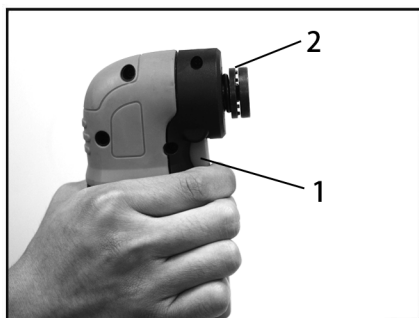
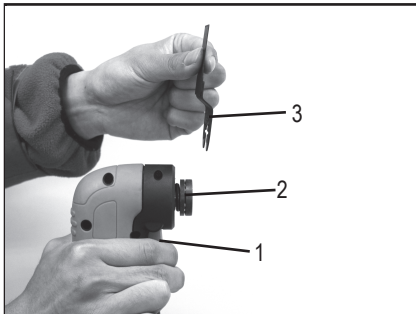
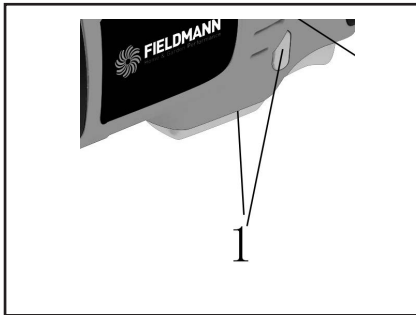

Fig. 1
Fig. 2
Fig. 5
1. Press the accessory holder (1). Fig. 1
2. Place the blade (3) on the accessory holder (Fig. 2)
- ✿ To turn the tool ON, slide the ON/OFF switch (1) toward the front of the tool (Fig. 5).
1. Install the plunge cutting wood saw blade for wood in the tool (Fig. 2).
2. Place a scrap piece of floor tile (1) on the floor about 1/2" (25mm) from the door jamb (2)
3. Place the tool with the saw blade (3) lightly touching the surface of the tile and the cutting teeth NOT touching the surface to be cut.
4. Set the speed to the fastest speed and turn to tool ON (Fig. 5 & 6)
1. Install the plunge cutting saw blade for wood in the tool (Fig. 2)
3. Place the saw blade (2) near the floor surface in the middle of one of the cutting lines.
4. Set the tool speed at a medium speed and turn the tool ON (Fig. 5 & 6)
1. Install the half circle saw blade for wood & drywall in the tool (Fig.2)
2. Place the outlet box on the drywall and use a soft lead pencil to trace the required rectangular hole (1) on the drywall
3. Place the corner edge of the saw blade (2) near the drywall in the middle of one of the cutting lines.
4. Set the speed to the highest speed and turn the tool ON (Fig. 5 & 6)
1. Install the sanding pad on the multi-tool as outlined in Fig. 2
4. Turn the switch ON as outlined in Fig. 5
1. Install the scraper blade on the multi-tool as outlined in Fig. 2, Fig. 1 & 2.
2. Set the speed control wheel to #4 and turn the switch ON as outlined in Fig. 5 & 6.